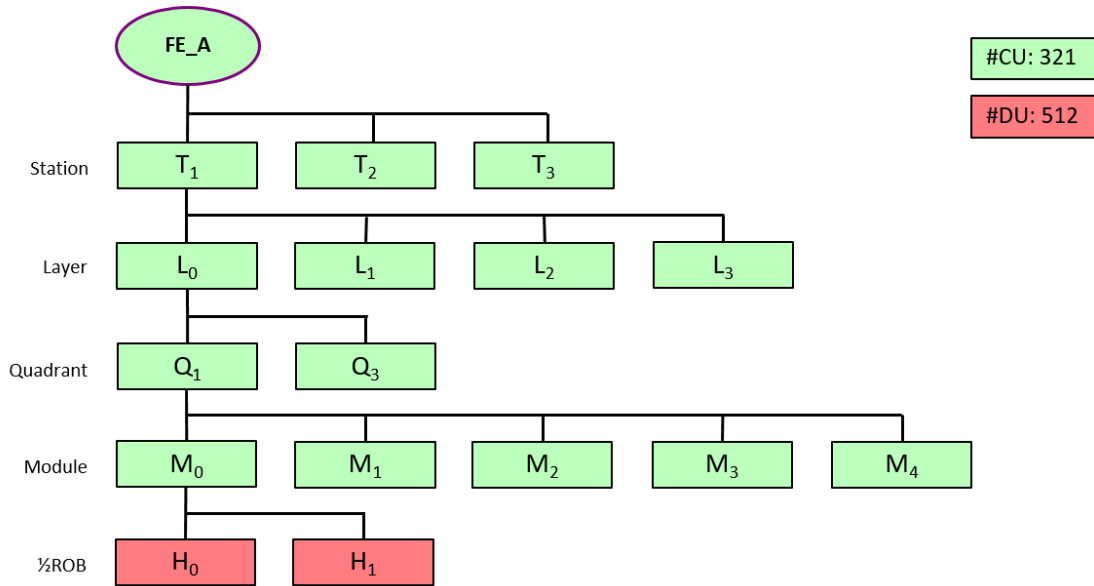

Figure 4: FSM-tree
Figure 4 partially shows the FSM tree for the FE side A (side C looks similar). The 2 top nodes of the sub-detector have the following domain names: SFA_DAQ_FE and SFC_DAQ_FE. They will be implemented as Control Units (CU). Between the 2 CU's and the 512 DU's 4 intermediate layers, all implemented as Control Units, can be distinguished. From top to bottom: T-layer, L-layer, Q-layer and M-layer. Following the LHCb ECS Integration Guidelines, they could have for instance the following names: